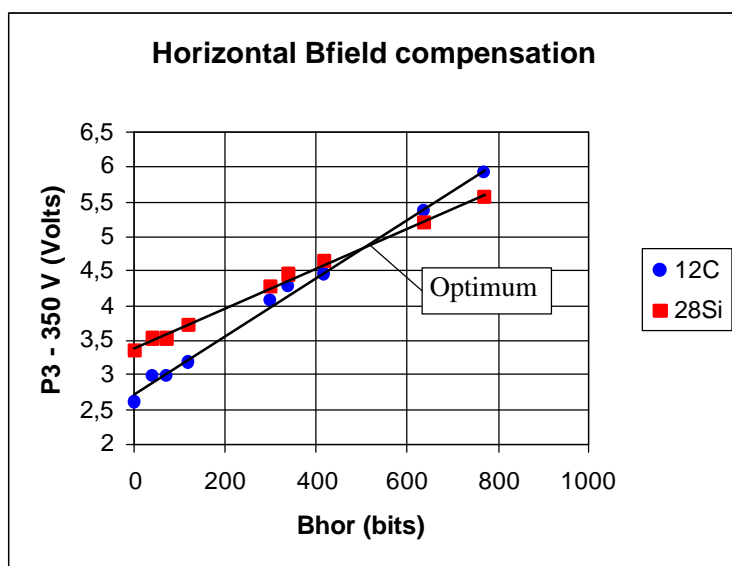

Figure 7: Vertical coil tuning
Due to the presence of leaking Bfields along the secondary ion trajectories, the secondary ion beam at the entrance slit is mass fractionated. These fringing fields are mainly produced by the two ion pumps in charge of pumping the analysis and the central chamber. This effect leads to severe mass fractionation at the entrance slits in both planes: for example on a SiC sample  $^{12}\text{C}^-$  and  $^{28}\text{Si}^-$  ions are not located at the same position at the entrance slit plane (see Figure 7 and 8).
- ☐ Change the coils intensities to cancel the position difference in the horizontal and vertical planes as shown on figure 7 and 8.